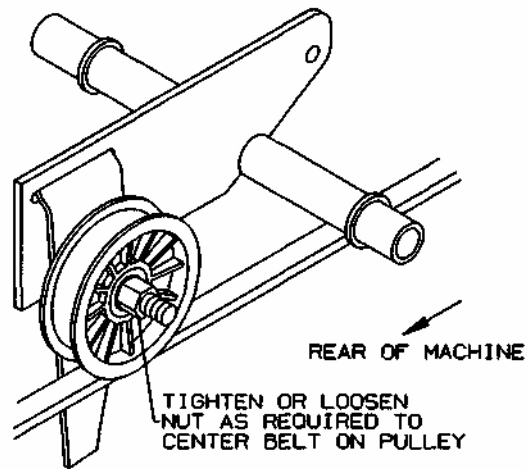

Figure 2
2. The twisted idler belt (P/N 1 860) should be aligned in the center of the pulley. To adjust the alignment, tighten or loosen the nut which holds on the pulley, as required, until belt is visually centered on the pulley. Start engine and disengage brake to determine whether pulley alignment is maintained during operation. Shut off engine and repeat procedure, if necessary. See Figure 2.